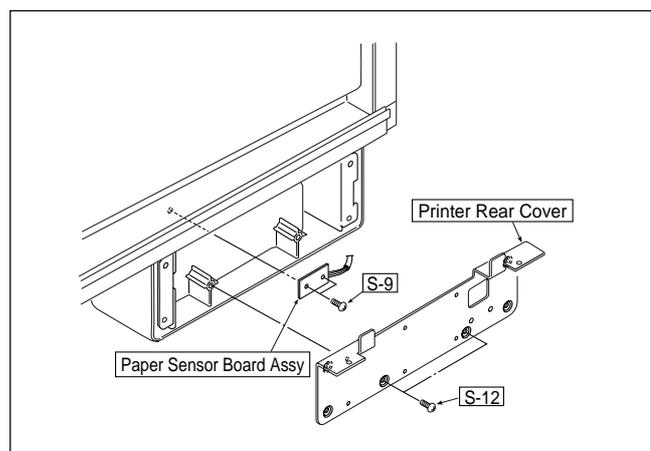

Fig. 10
9) Remove the Paper Sensor Board Assy. (See Figure 10.)
1. Remove the "S-12" screws as shown in Figure 10 and remove the Printer Rear Cover. (Tightening torque :  $8\pm 2.4\text{kgfcm}$ )
2. Remove the "S-9" screws as shown in Figure 10 and remove the Paper Sensor Board Assy. (Tightening torque :  $4\pm 1.2\text{kgfcm}$ )